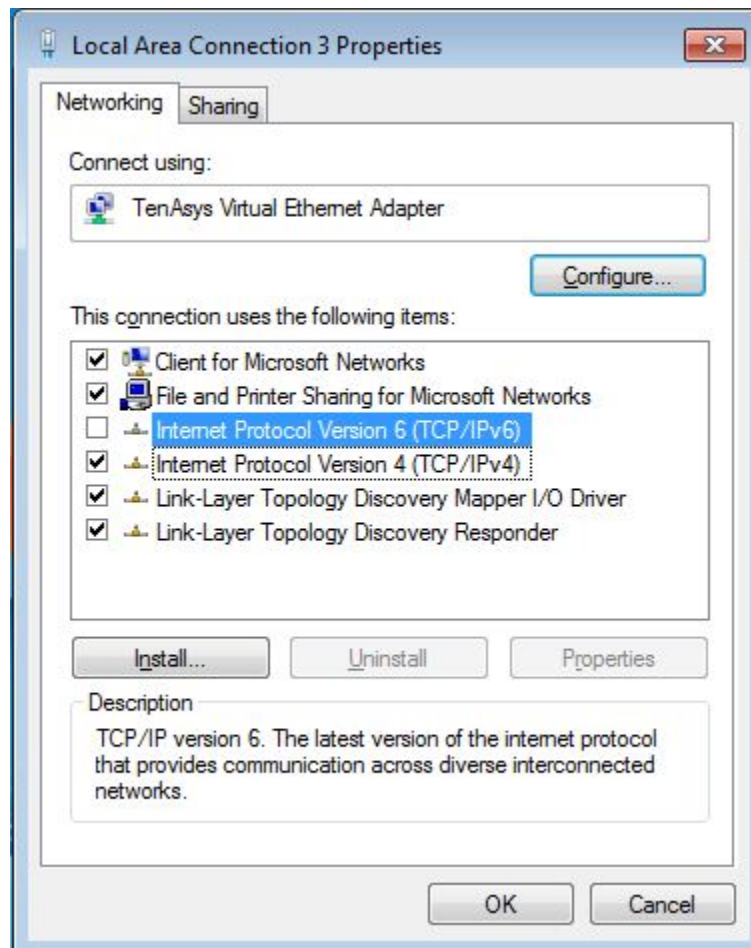

Figure 4.30 - TenAsys Virtual Ethernet Adapter, Windows Local Area Connection Properties
4. You will now see the *Local Area Connection Properties* for the *TenAsys virtual Ethernet Adapter*. We will be using TCP/IPv4, so uncheck the checkbox for **Internet Protocol 6 (TCP/IPv6)**, Figure 4.30.